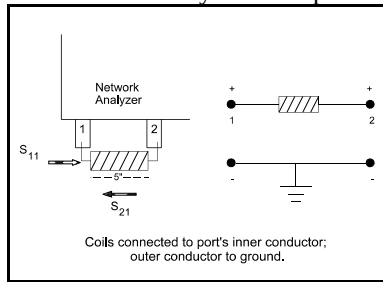
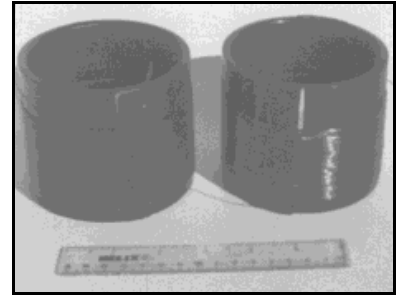

Fig. 1: Measurement configuration
Fig. 2: Measured coils
1. Figure 1 is an illustration of the test configuration and Figure 2 reproduces a photograph of the measured coils. The measurements were made by inserting the coil leads into the inner conductors of ports 1 and 2 on an HP Network Analyzer. The ports' outer conductors were connected to ground.